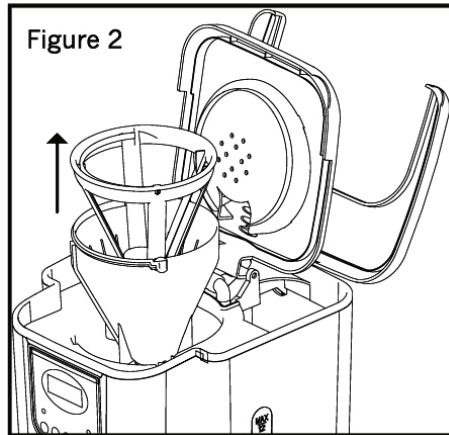

Figure 2
3. Lift the permanent filter and fill with desired ground coffee. Use 1 level scoop of ground coffee per cup. (This is a suggested recipe. Adjust the recipe to your taste.) Maximum capacity is 12 level scoops. Do not overfill or the coffeemaker may overflow. After adding ground coffee, place the filter back into position & close the top cover. (Figure 2, see p. 6)